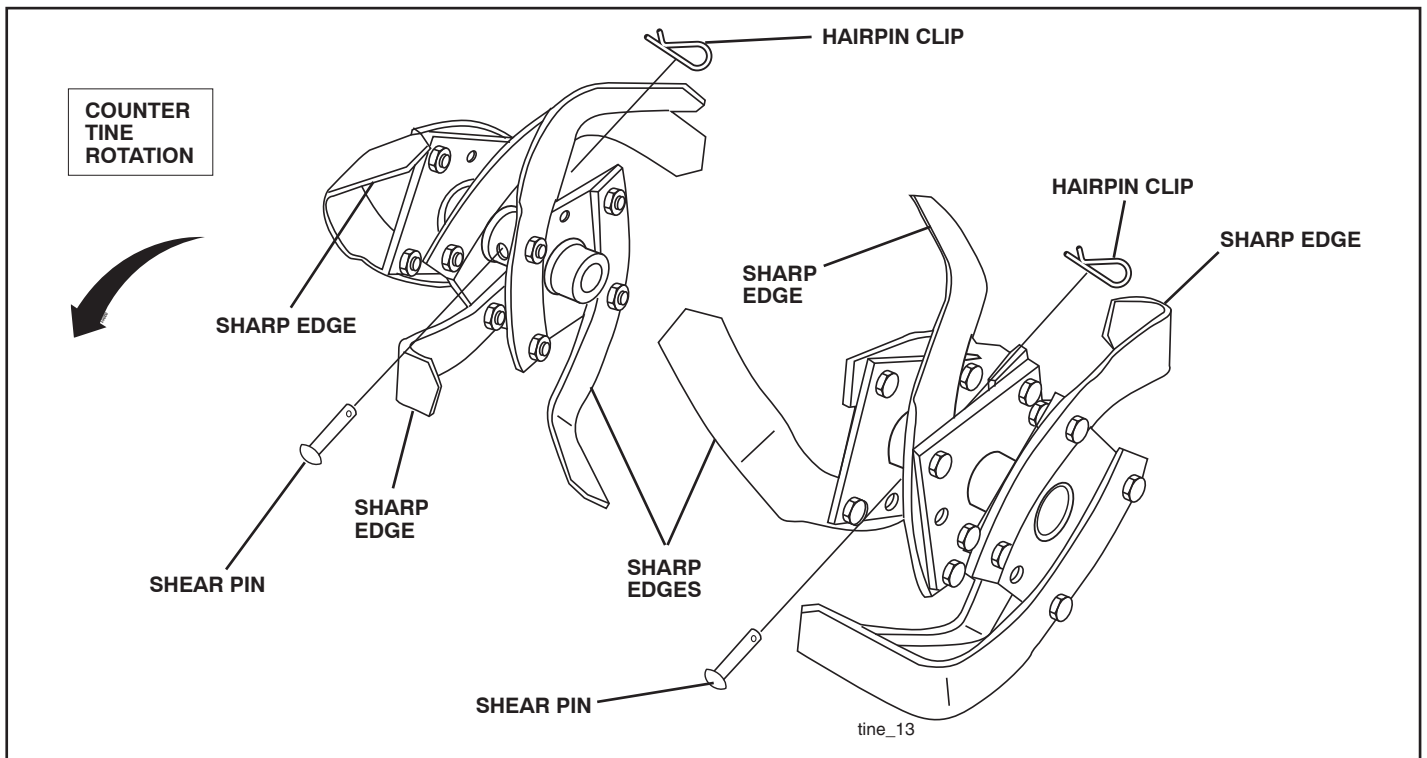

Fig. 28
- New tines should be assembled as shown in Fig. 28. Sharpened tine edges will rotate rearward from above.